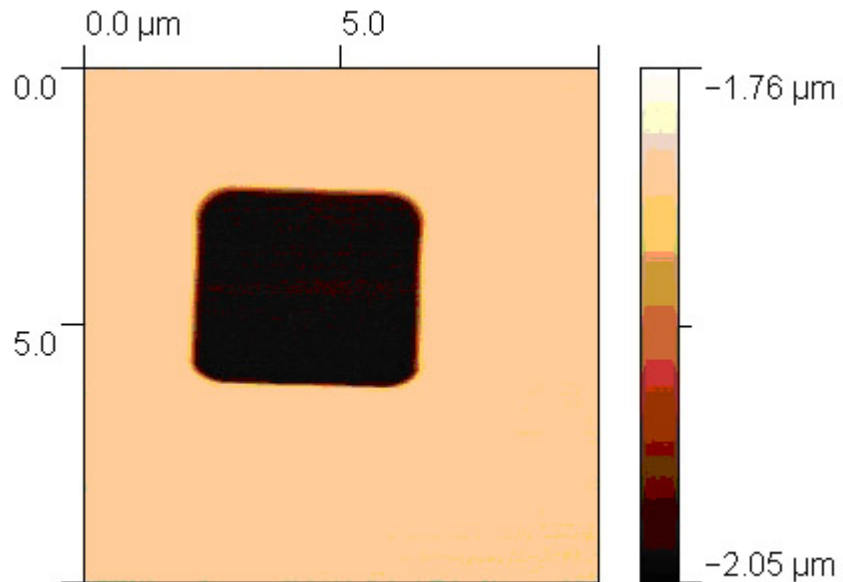

Figure 145 200 nm deep pit on the calibration standard
- 3 Obtain a 10 micron image centered on one of the calibration standard pits (Figure 145). Flattening should be set to **None**.